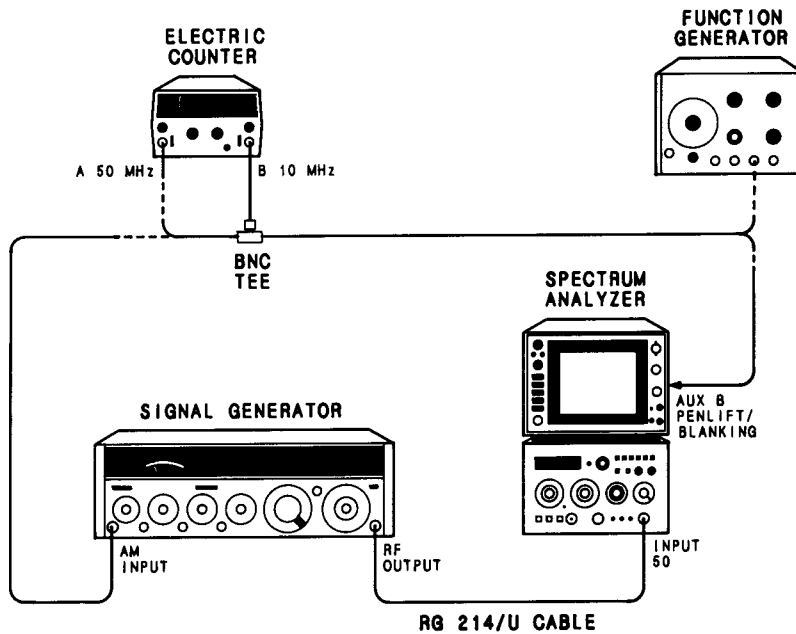

FIGURE 4-19. SWEEP TIME ACCURACY TEST SETUP
2. Connect equipment as shown in Figure 4-19. Connect counter's B 10 MHz input to the function generator low output and the signal generator's AM input.